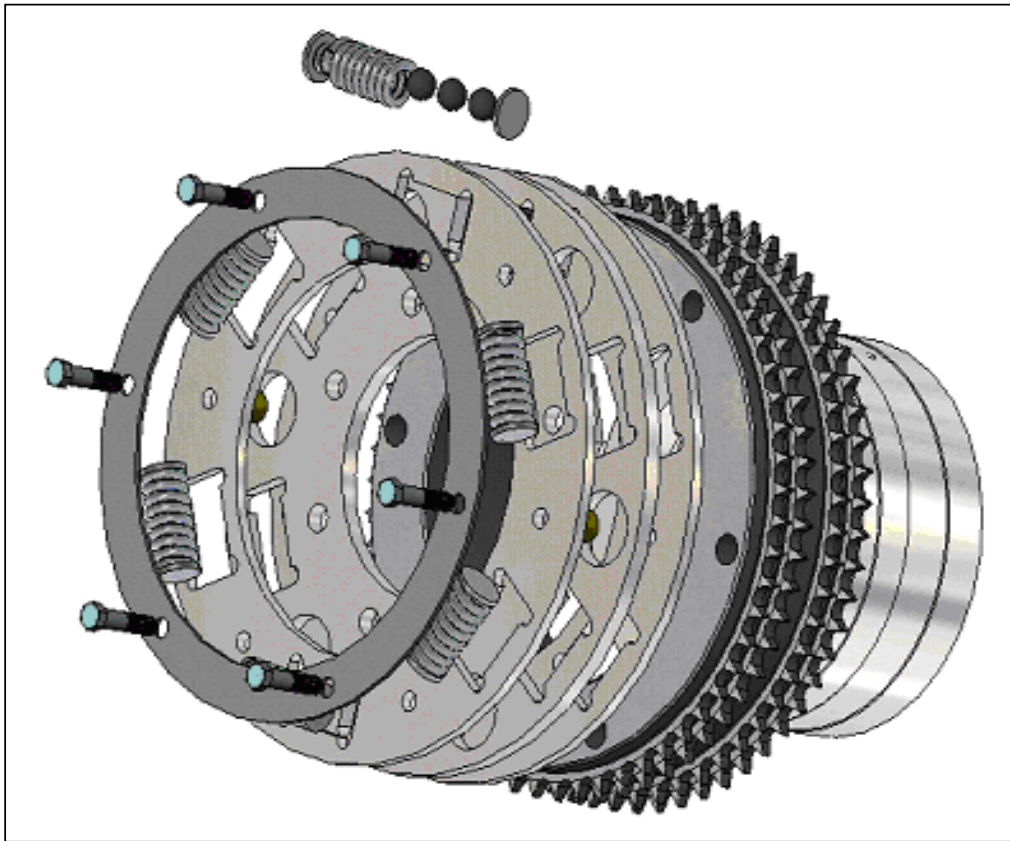
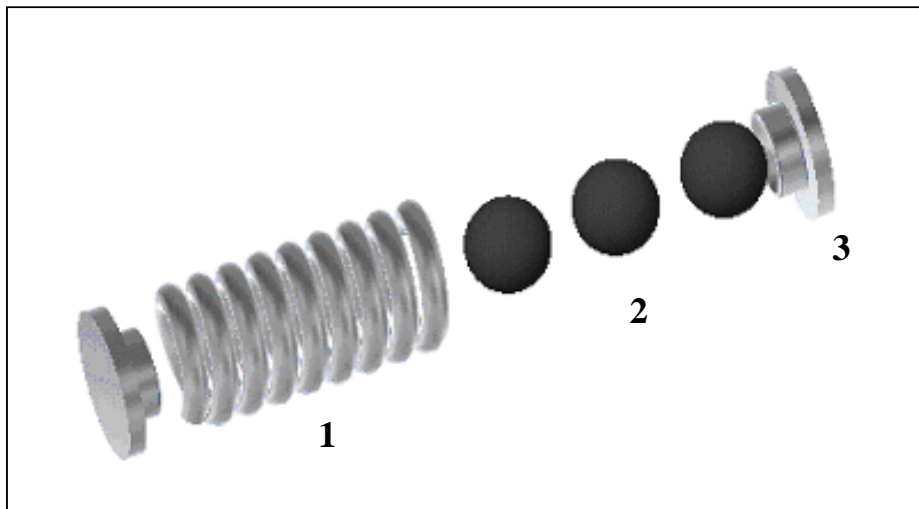

Figure 1
Figure 2
The installation for EnDyn's revised pump drive system is the same as the standard pump drive. There is, however a change in the spring damping system. EnDyn's system utilizes two (2) spring pads and three (3) rubber balls per spring (fig. 1). The spring pads and balls are assembled in the order shown in figure 2. It may be necessary to slightly compress the spring assembly to ease installation into the drive plates. The assembly from this point on is exactly the same as the standard drive assembly.